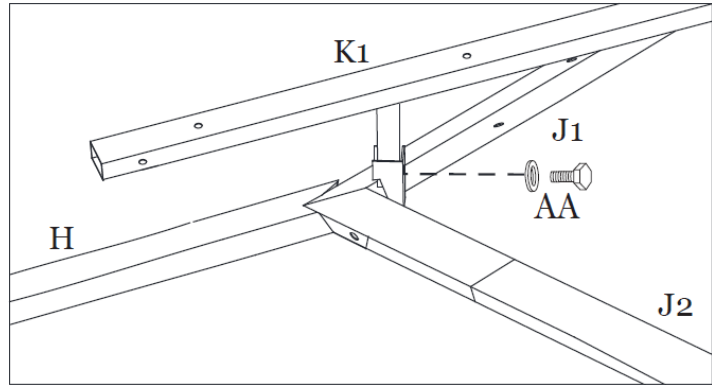

Figure 9-2
Step 9C: Secure the Roof Vent Frame to the Main Roof Center Frame by inserting the Roof Vent Corner Supports (K1) into the post on the Short Connector (J1) of the Main Roof Center Frame and attach using Bolts (AA). See Figure 9-2.